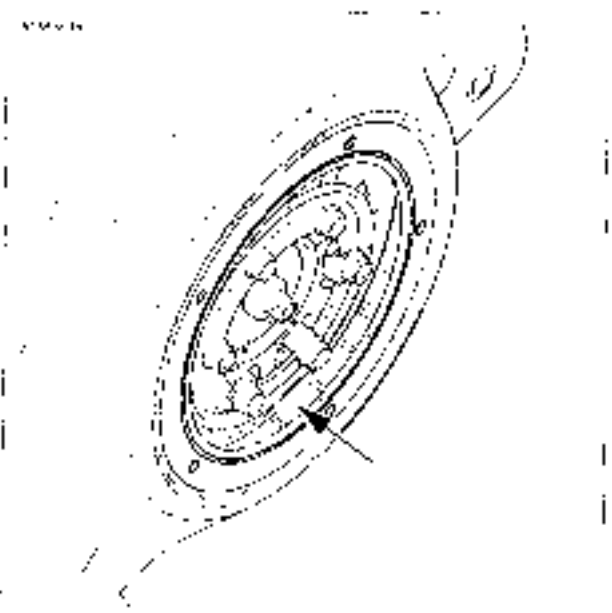

Figure 1-26. Chaincase Lubricant Level
5. Pour 261 oz (758.9 ml) of primary chaincase lubricant in through the clutch inspection cover opening. See Figure 1-26. The primary chaincase lubricant level is acceptable when lubricant is visible in the bottom of the chaincase with the motorcycle standing upright (not resting on jolly stand).